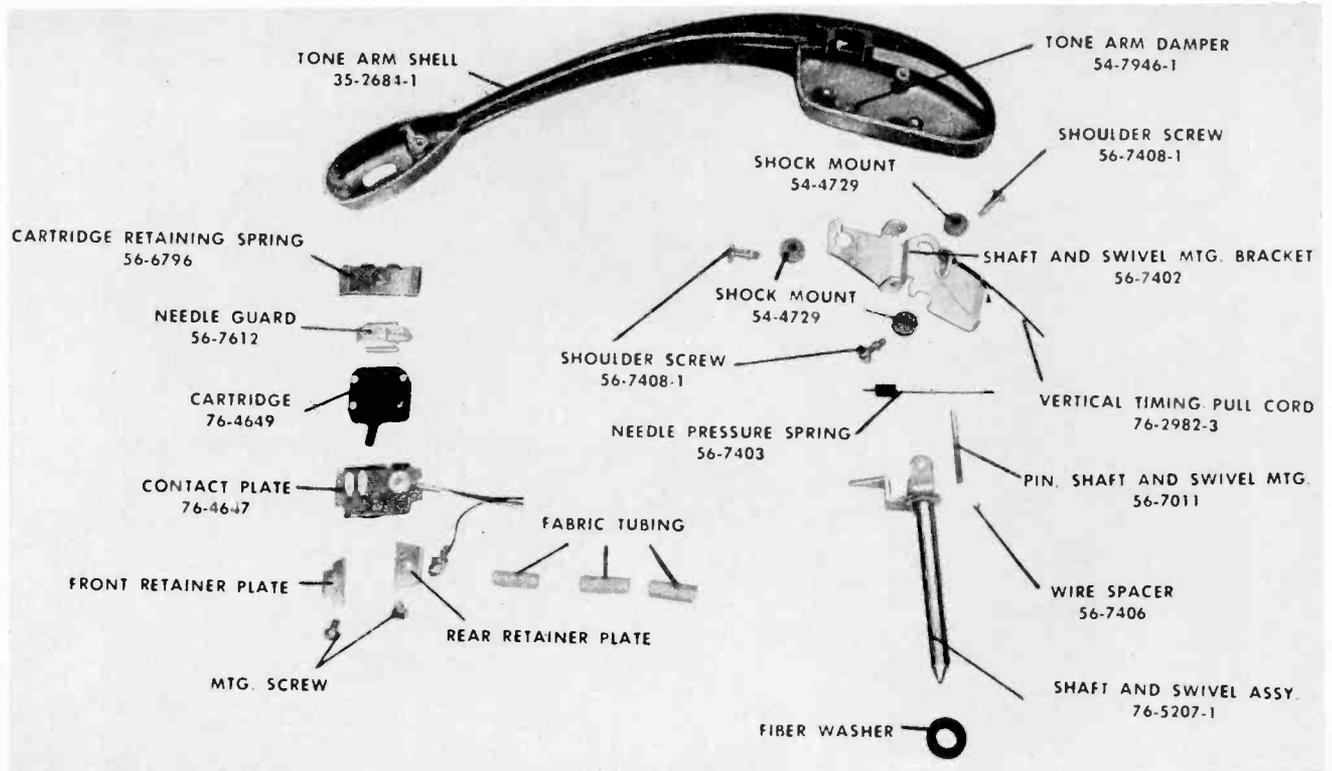

FIGURE 13. TONE-ARM ASSEMBLY
- Lift out tone arm. Figure 13 shows tone-arm assembly